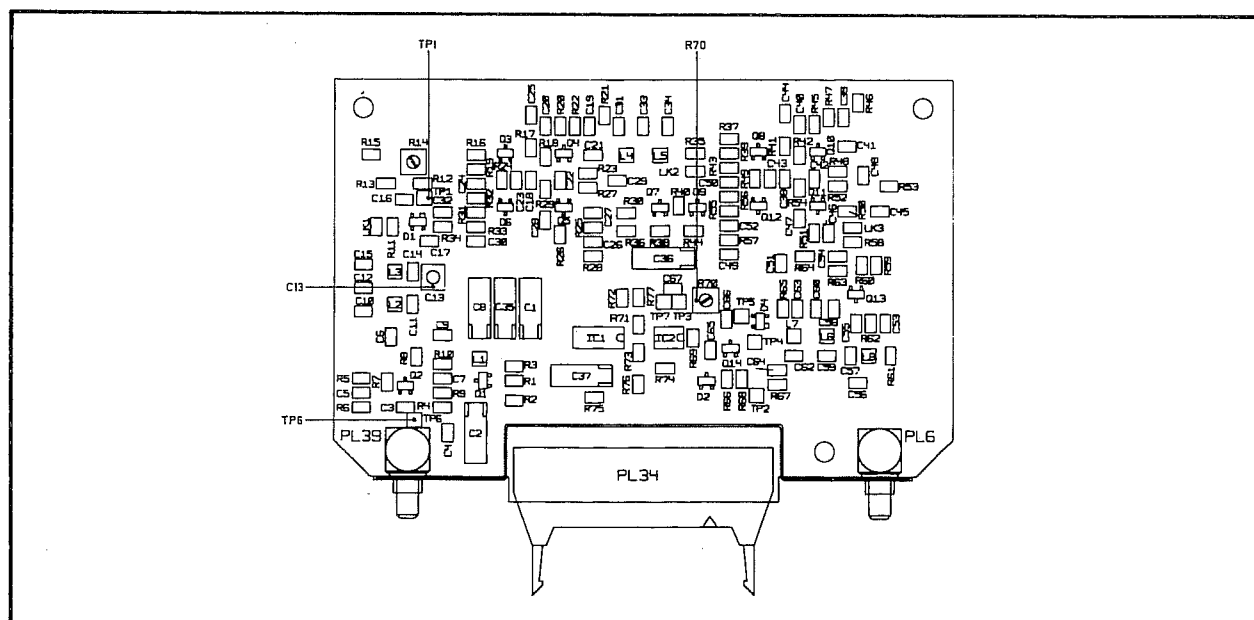

Fig. 7.11 Locations of TP1, TP6, R70 and C13
- 52 (1) The module stack may be left fitted in the 2101 for these tests. Alternatively it can be removed from the 2101 and the IF Processor linked to the unit via the extended ribbon cable. Remove the lid of the IF Processor.
- (2) Using the Digital Multimeter, check that the Sampling Mixer IF bias voltage at TP6 is $+11\text{ V} \pm 1\text{ V}$ relative to ground, see Fig. 7.11.
- (3) Using the Digital Multimeter, check the IF level detector threshold voltage at TP1 is $+150 \text{ mV} \pm 3 \text{ mV}$ relative to ground. If necessary adjust R70 to achieve this voltage, see Fig. 7.11.
- (5) Set the signal generator to 184 MHz at -6 dBm.
- (6) On the 2101 select SF41 and SF36. This configures the 2101 to monitor and display the status of the IF BW line from the IF Processor module. It is a calibration aid to assist in setting up the 175 MHz low pass filter.
- (7) Adjust C13 slowly until the 2101 display just changes from '0' to '1', see Fig. 7.11. This sets the stopband edge of the 175 MHz low pass filter.
- (8) Set the generator to the frequencies shown in Table 7.4, and check the 2101 display status. This checks the adjustments of the stopband edge of the 175 MHz low pass filter. If the results are incorrect then repeat the procedure in step (7) until the status is correct.